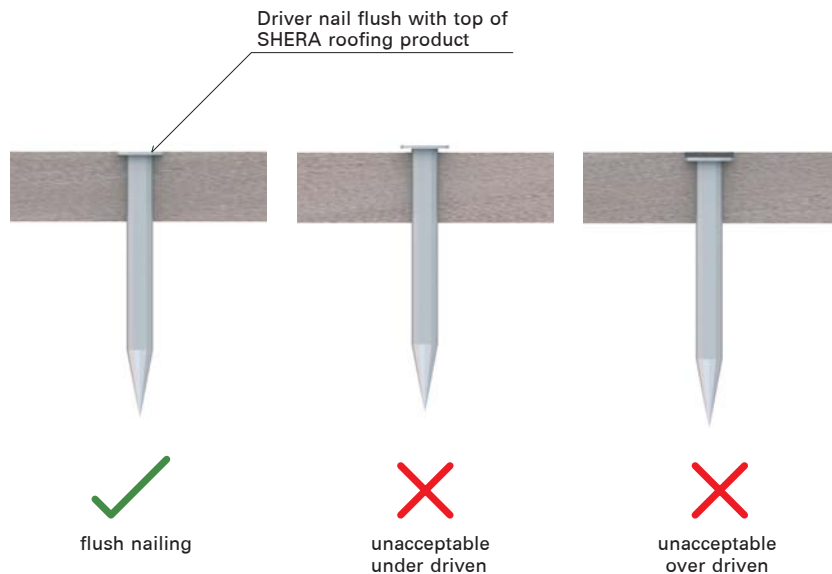

Figure 1 : Nail Fastener
- Nails should not be over or under driven as it will reduce holding strength of the sheet. See figure 1 for recommended application.